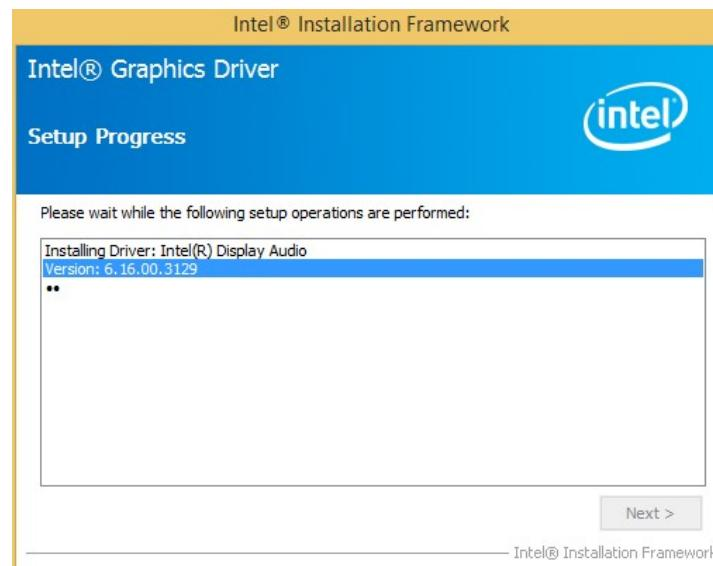

Figure 6-11: Graphics Driver Installation Finish Screen
Step 9: **Setup Operations** are performed as shown in **Figure 6-11**.